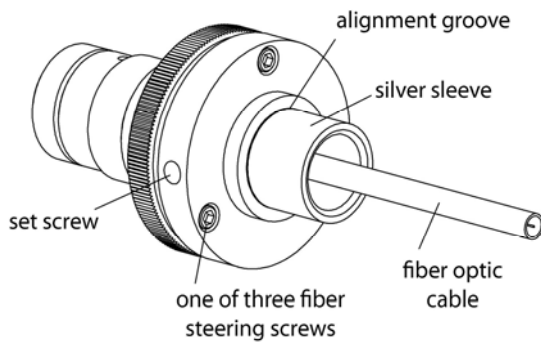

Figure 6. Components of a lens assembly
1. Use the 5/64-inch hex screwdriver from the **qpod/E** accessory kit to loosen the set screw (**Figure 6**).